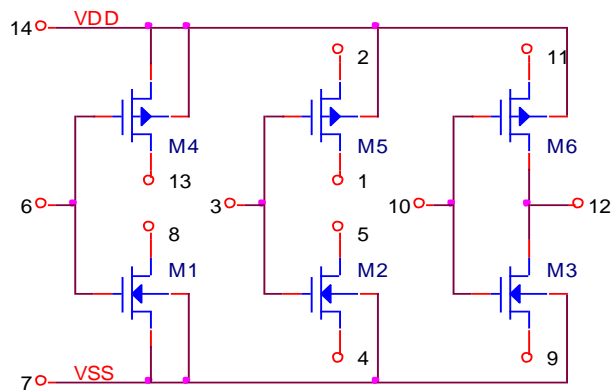
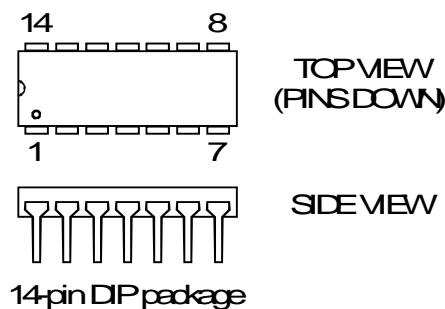
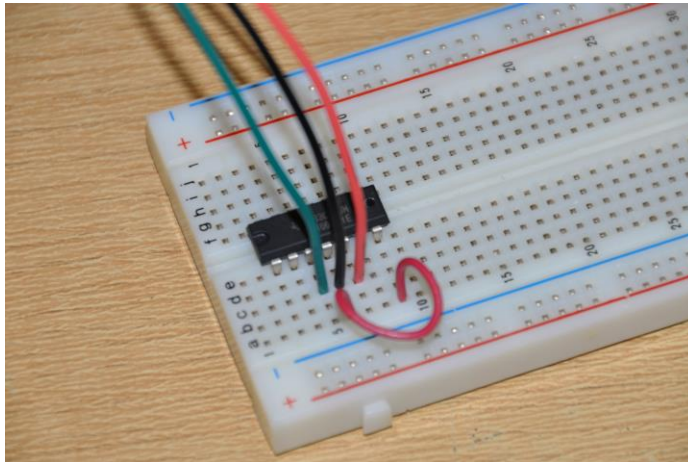
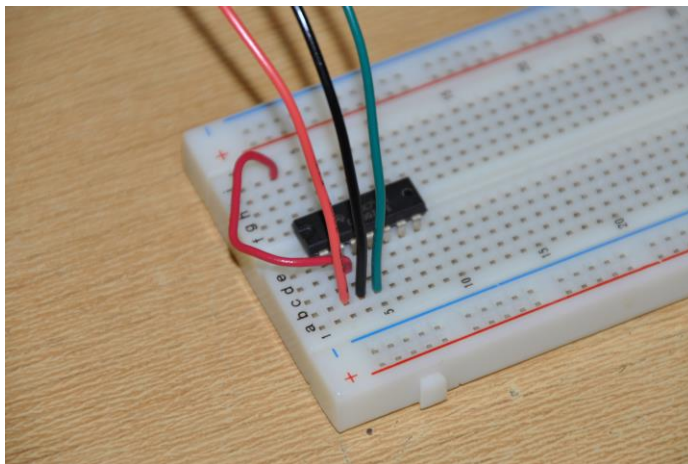

Figure E3.2a
Figure E3.2b
Figure E3.4n
Figure E3.4p
Comment This procedure will use the CD4007 CMOS integrated circuit. This is a very general purpose CMOS IC which includes an array of 3 n-channel and 3 p-channel MOSFET's connected as shown in Fig. E3.2a. The digits by each terminal indicate the pin numbers on the 14-pin DIP package, shown in Fig. E3.2b. Note that pin 14 (VDD) must *always* be connected to the most positive power supply voltage, and pin 7 (VSS) must *always* be connected to the most negative (or ground) power supply voltage in order to keep the body-source and body-drain pn-junctions from becoming forward biased. This is what provides electrical isolation between the different MOSFETs in the integrated circuit, and if this isolation fails, all of the MOSFETs end up being shorted together with completely unpredictable results. Although it is not shown in the schematic, each of the three inputs to the MOSFET gates (pins 3, 6, & 10) have two ESD protection diodes that connect them to the VDD and VSS power rails.
Set-Up Locate the CD4007 CMOS array integrated circuit. Plug the CD4007 into the solderless breadboard so that it straddles the center groove. This procedure will perform tests only on MOSFET M2 in Figure E3.2a. You may find it helpful to plug short jumper wires into the solderless breadboard to contact pins {3,4,5,7, & 14} of the integrated circuit. All of the next measurements will involve only these leads.
- (d) If the power leads to the CD4007 IC are reversed, with VSS at a higher potential than VDD, then other pn-junction diodes can be turned on, clamping this voltage to the diode turn-on voltage. Using the schematic of Fig. E3.2a, show how current can flow from VSS to VDD and create a voltage drop of two diode turn-on voltages (about 1.2 V).
Set-Up-n	The LabVIEW FETCurveTracer.vi can be kept loaded from where it was left in Procedure 3, and no changes need to be made to the analog connector block wiring. Insert a CD4007 CMOS MOSFET array into a solderless breadboard and connect the gate, source, drain, and body leads to the n-channel MOSFET M2 (pins 3,4,5, & 7, respectively). Use long jumper wires to go from the connector block to the solderless breadboard. Refer to Figs. E3.2a and E3.2b for the correct pins on the IC. You will also need to use a small jumper wire to connect the body to the source, pins 4 and 7, which will set $V_{BS} = 0$. The final connections on the solderless breadboard are shown below in Fig. E3.4n. In this photo, the source lead is black, the gate lead is green, and the drain lead is red.
Set-Up-p Now move the drain, source, gate, and body jumper wires to pins (1, 2, 3, & 14, respectively) on the CD4007 CMOS MOSFET array IC to connect the curve tracer to the p-channel MOSFET M5. Again, refer to Figs. E3.2a and E3.2b for the correct pins on the IC. You will again need to use a small jumper wire to connect the source to the body, pins 2 and 14, which will set $V_{BS} = 0$. The final connections on the solderless breadboard are shown below in Fig. E3.4p. As before, the source lead is black, the gate lead is green, and the drain lead is red.
Set-Up Keep the CD4007 CMOS MOSFET array plugged into the solderless breadboard, but change its connections back to the n-channel MOSFET M2 on pins 3,4,5, & 7. A small jumper wire should again be used to short the body and source terminals together (pins 4 and 7). The final connections should look like those in the photo of Fig. E3.4n of the previous procedure.